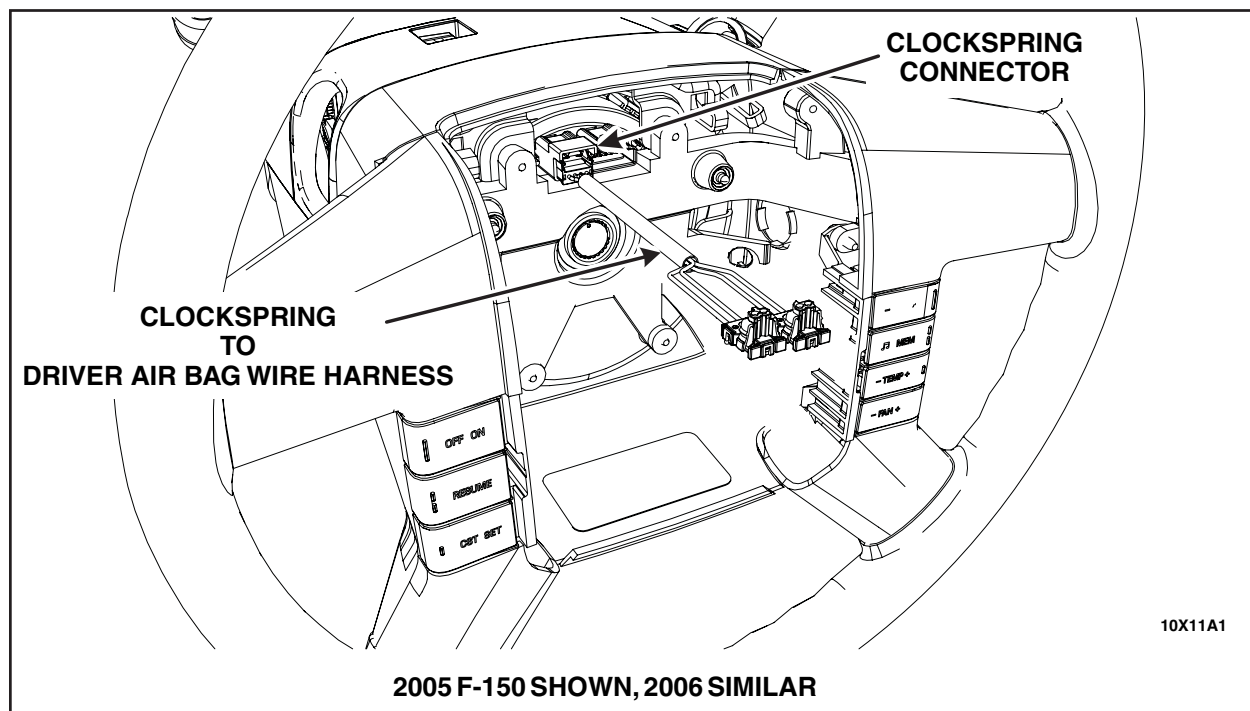

FIGURE 1
2. Release the clockspring connector lock and disconnect the harness from the clockspring. See Figure 1.